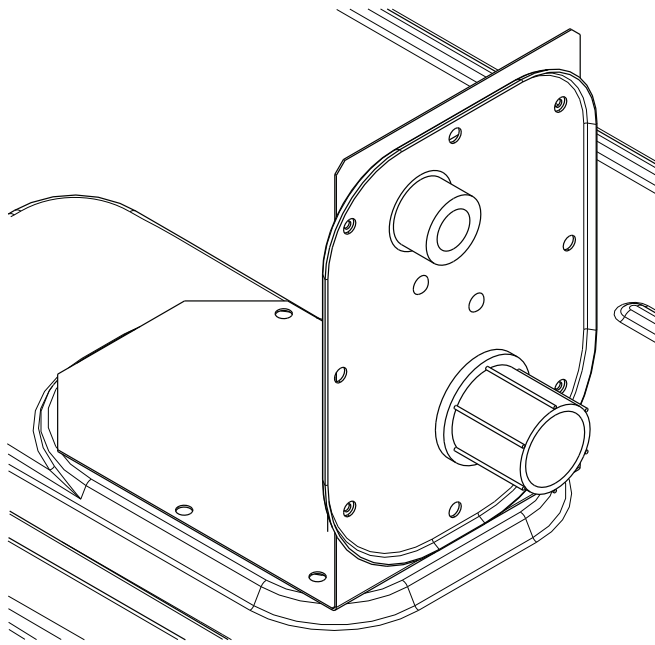
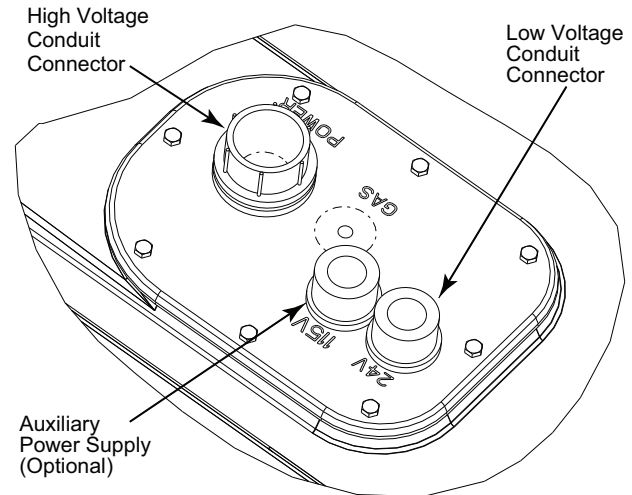

Fig. 28 — Thru-the-Base Fitting Assembly (Shown in Shipping Position)
Fig. 29 — Thru-Base Connection Fittings
This service connection kit consists of a 1/2 in. electrical bulkhead connector and a 3/4 in. electrical bulkhead connector, connected to an “L” bracket covering the embossed (raised) section of the unit basepan in the condenser section (see Fig. 28 for shipping position). The 3/4 in. bulkhead connector enables the low-voltage control wires to pass through the basepan. The 1/2 in. bulkhead connector allows the high-voltage power wires to pass through the basepan. See Fig. 29.
3. Place the gasket over the embossed area in the basepan, aligning the holes in the gasket to the holes in the basepan. See Fig. 29.